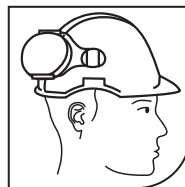

Fig 10
- **Parking position:** First lift the cups to the stand-by position, then rotate them up to the next fixed position (Fig 10)